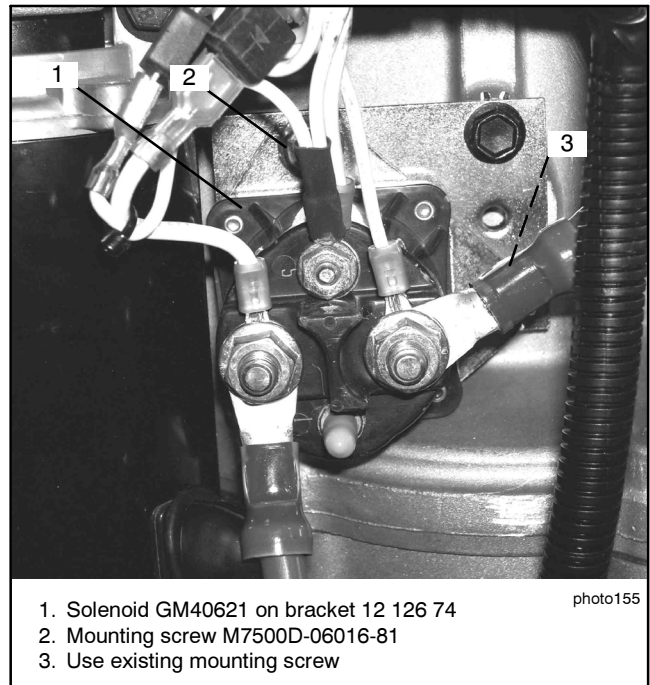

Figure 3 New Solenoid Mounting Location
12. Mount the new bracket (12 126 74) and starter solenoid (GM40621) onto the genset as shown in Figure 3. Reuse the hardware from step 11 to attach the bracket to the genset.
- a. Position the solenoid as shown in Figure 3. Align the 3 o'clock mounting hole with the lower mounting hole on the bracket and insert fastener through both mounting brackets.